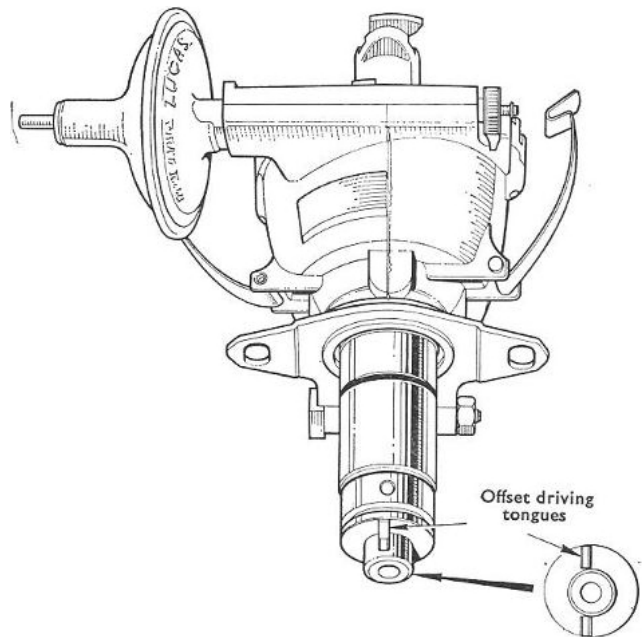

Fig. 14 Typical drive arrangement
If a driving gear or dog is fitted to the shaft and has to be removed, note the relative positions between it and the rotor arm electrode. A gear should be marked to ensure correct re-assembly whereas a dog normally has offset tongues which should lie to the left of the centre-line when they are in line with the rotor arm electrode, see Fig. 14.
- (j) Refit the thrust washer and drive dog or gear to the shaft. The tongues of the dog must lie to the left of the centre-line of the shaft when they are in line with the rotor arm electrode, (Fig. 14).